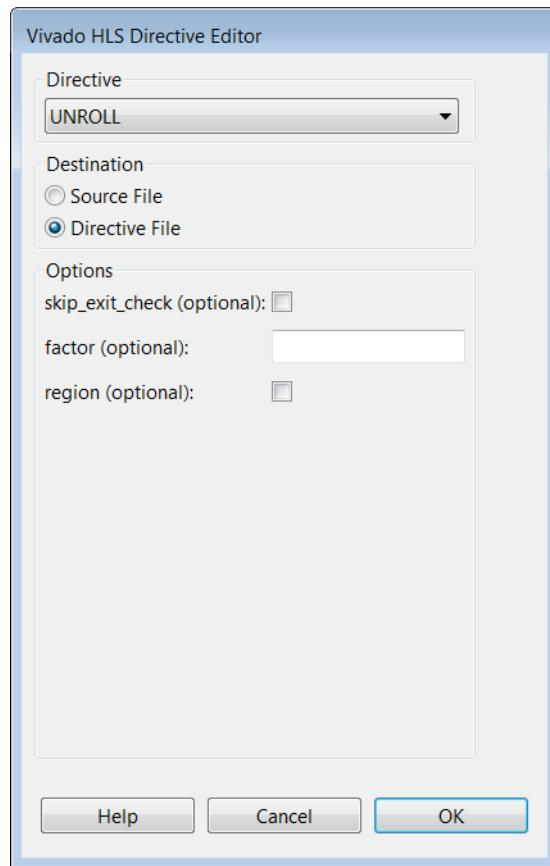

Figure 4-17: Directives Editor to Unroll For_Loop
- b. With the Directives Editor as shown in Figure 4-17, click **OK**.